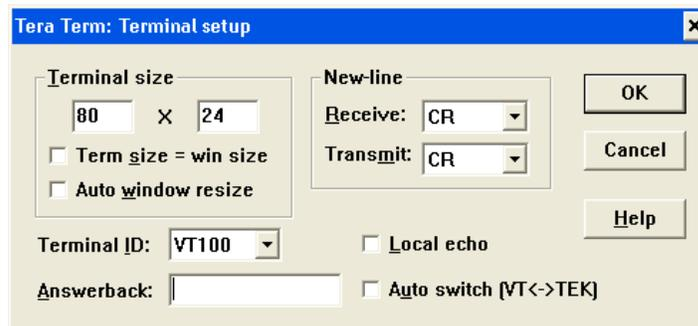

Figure 11: Tera Term Terminal Setup
5. Select **Setup** > **Terminal** in the Tera Term window. The Terminal setup window is displayed (Figure 11).